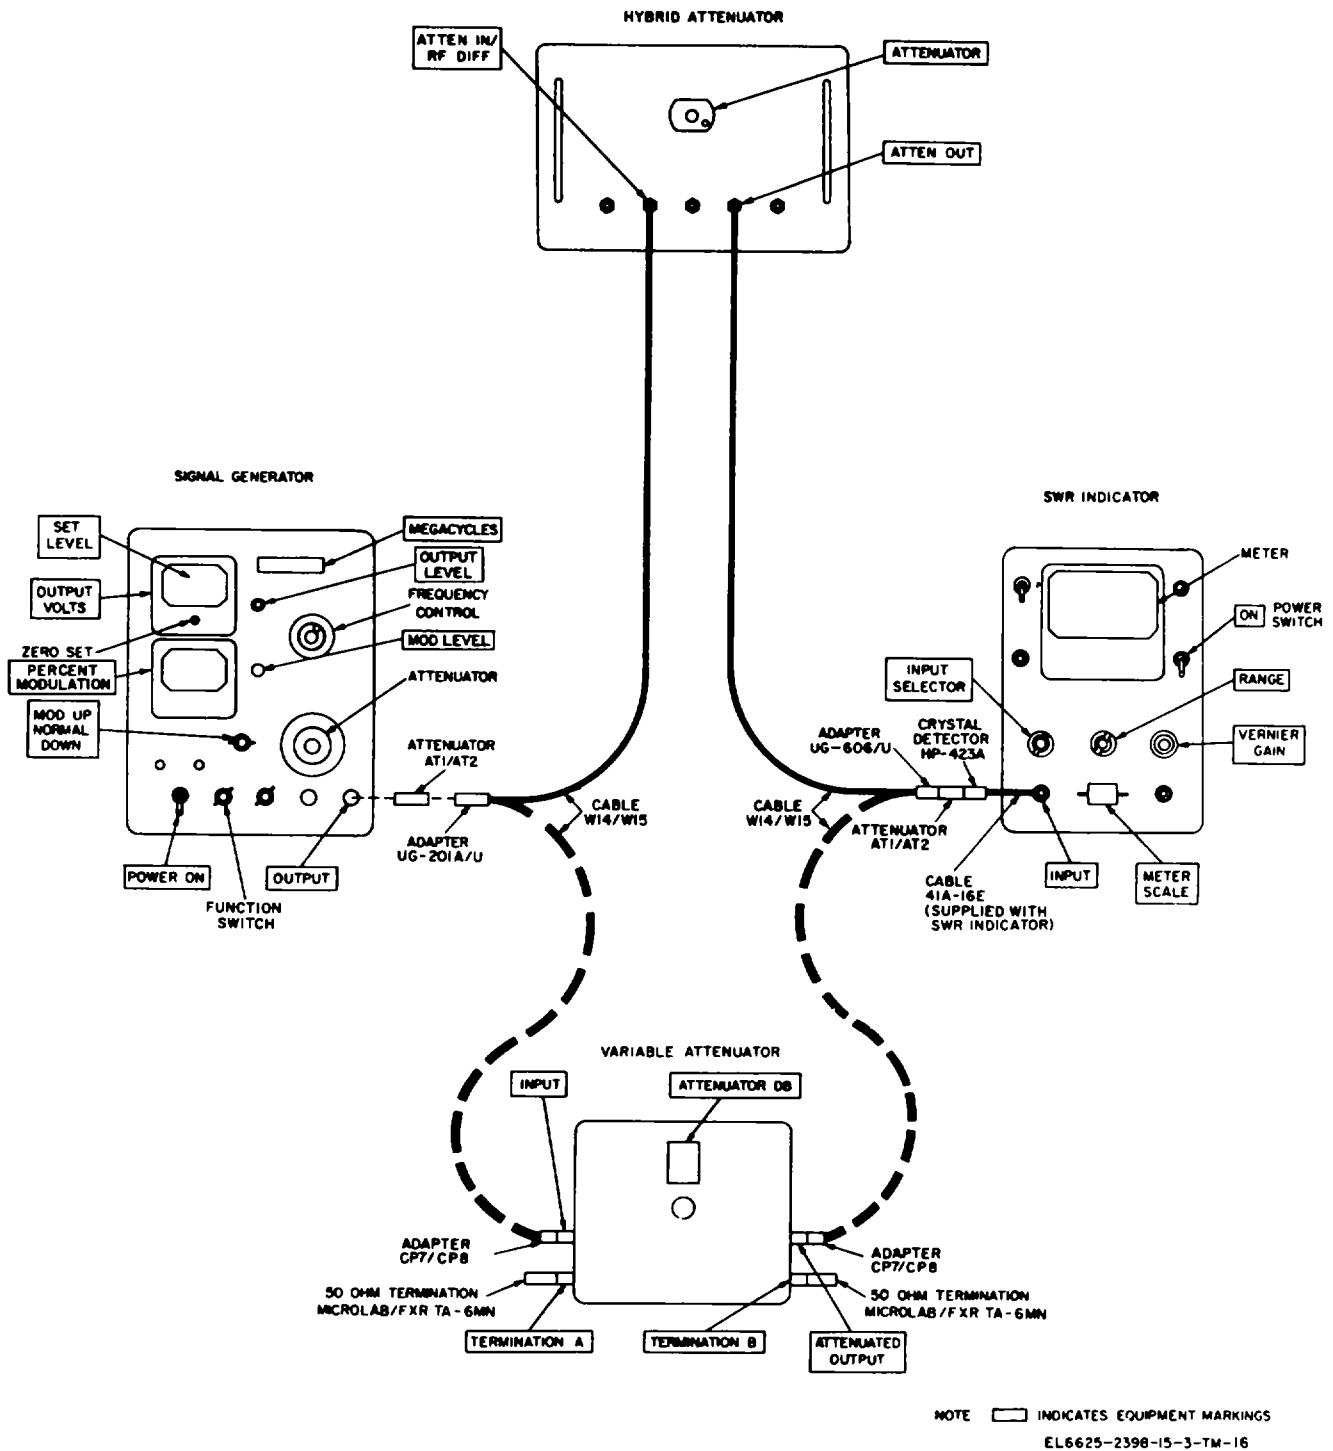

Figure 6-4. Hybrid attenuator ATTENUATOR dial, calibration connections.
**6-10. Hybrid Attenuator ATTENUATOR Dial Calibration** (fig. 6-4)
- 50-ohm Terminations (2), Microlab/FXR
b. *Procedure.* Connect the equipment as shown in solid lines 'fig. 6-4), and proceed as follows:
(1) On the signal generator, set the MEGACYCLES dial to 1090 with the frequency control knob. Set the function switch to CW, and turn on the signal generator. Allow a minimum of 20 minutes warm-up period before proceeding.
(2) With the METER SCALE set to NORMAL and INPUT SELECTOR set to XTAL-200K n, turn on the SWR indicator and allow a minimum of 10 minutes warm-up period before proceeding.
(3) Turn off the signal generator and zero set the OUTPUT VOLTS meter.
(4) Turn on the signal generator, and adjust the OUTPUT LEVEL control knob for an OUTPUT VOLTS meter indication at the SET LEVEL (+4 DBM) mark, with the attenuator set to 0dB.
(5) On the signal generator, set the function switch to 1000-, the MOD. UP-NORMAL-DOWN switch to NORMAL and adjust the MOD. LEVEL control for a reading of 50 on the PERCENT MODULATION meter. Set the hybrid attenuator ATTENUATOR control to 0 (zero). Adjust the SWR indicator VERNIER GAIN control and the RANGE switch for an exact meter reading (e.g., .5 on the DB meter scale). Record the meter reading.
(6) Disconnect the hybrid attenuator under test and connect the variable attenuator, as shown by broken lines;, figure 6-4.
(7) Adjust the variable attenuator ATTENUATOR DB control for the same SWR indicator meter reading recorded in step b(5) The ATTENUATOR DB control of the variable attenuator must indicate 0 + 1.0, - 0.0dB.
(8) Correct the hybrid attenuator calibration tag marking, if incorrect.
(9) Disconnect the variable attenuator and reconnect the hybrid attenuator, as shown by solid lines, figure 6-4.
(10) Record the readings on the meter of the standing wave ratio indicator for the hybrid
lines, figure 6-4.